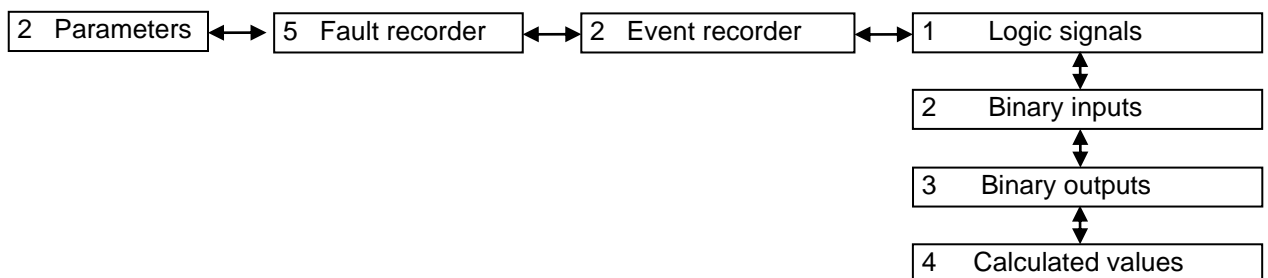

Figure 53 – **Event recorder** menu structure
**Event recorder** menu contains submenu which enable to control recording of logic signals: to include and exclude them from the list of recorded signals (see figure 53):